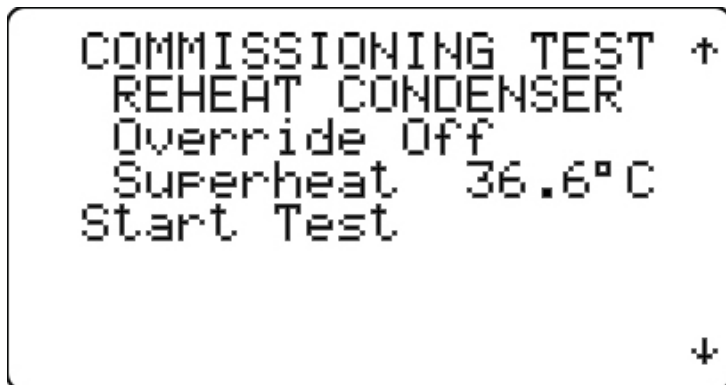

Figure 35
4.3.4.1.7 Commissioning Tests (Figures 35 - 37)
Selecting the COMMISSIONING TESTS from the Commissioning Menu displays the COMMISSIONING TEST screens. The Reheat and Remote or Cooling will have a separate test screen (Figures 35 and 36 respectively). Select the condenser to test and override it by setting the Override to 'On'. Insure that the superheat is stable before starting the test. Select 'Start Test' by pressing the **UP** key with the cursor over the 'Start Test' text. After 5 minutes, the average refrigeration data can be shown by pressing the **Prg** key. The average superheat as well as the high and low readings of superheat during this test are found by pressing the **UP** and **DOWN** key. Record this data on the startup form.